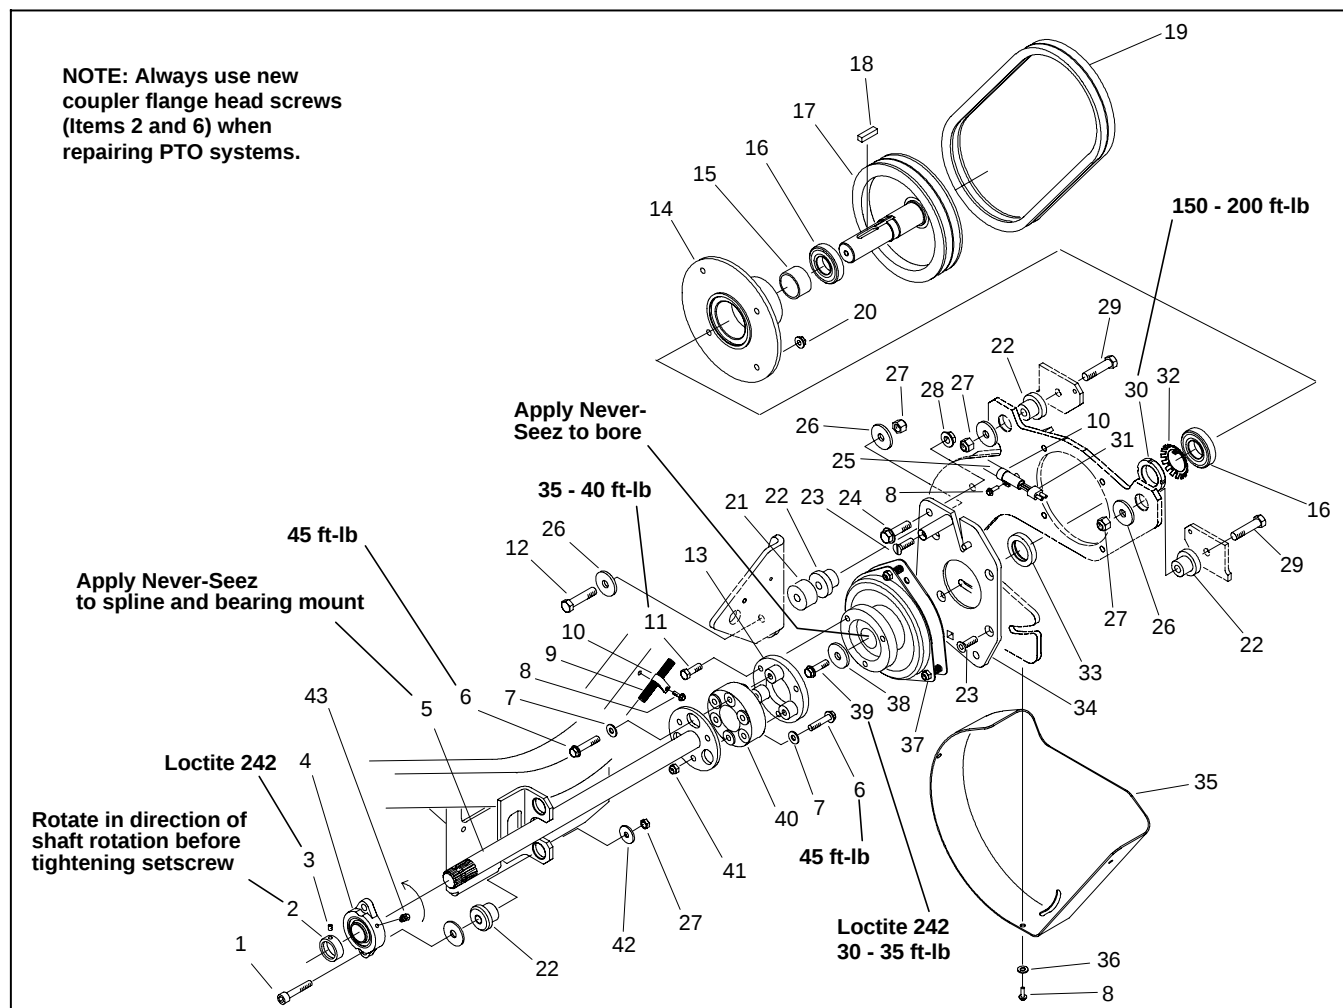

Figure 10
NOTE: A special tool (TOR4051) is required remove and install the bearing locknut (Fig. 10, Item 30).
3. Remove four (4) locknuts (Fig. 10, Item 20) and special screws (Item 23) securing lower bearing housing (Item 14) to clutch plate (Item 34).
13. Install lower bearing housing and pulley assembly to main clutch plate (Item 34) and secure with four (4) special screws (Item 23) and locknuts (Item 20).
2. Loosen setscrew (Fig. 10, Item 3) and turn bearing collar (Item 2) in opposite direction of shaft rotation to remove.
5. To remove PTO shaft, remove three (3) flange head screws (Item 6) and flat washers (Item 7) securing rubber flange (Item 40) to clutch adapter (Item 13).